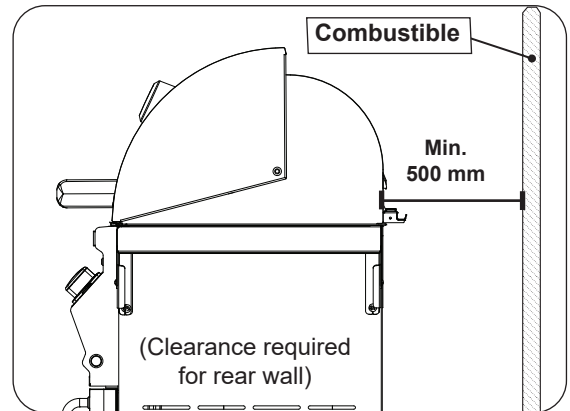

Fig. 7-2 Clearance 'B' Diagram
- The unit must have a minimum clearance of 500 mm from the combustible rear wall (see Fig. 7-2).